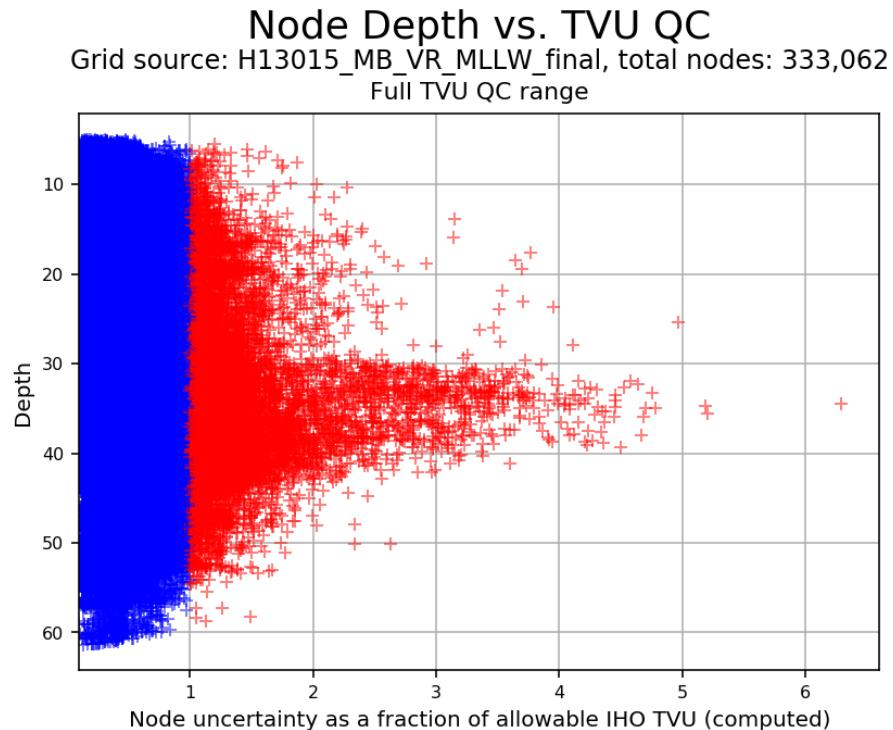

Fig. 2.34: A plot of every node represented in the surface in plotted as its depth on the y axis and its uncertainty as a fraction of the IHO TVU on the x axis.
- Node Depth vs. TVU QC (Fig. 2.34).